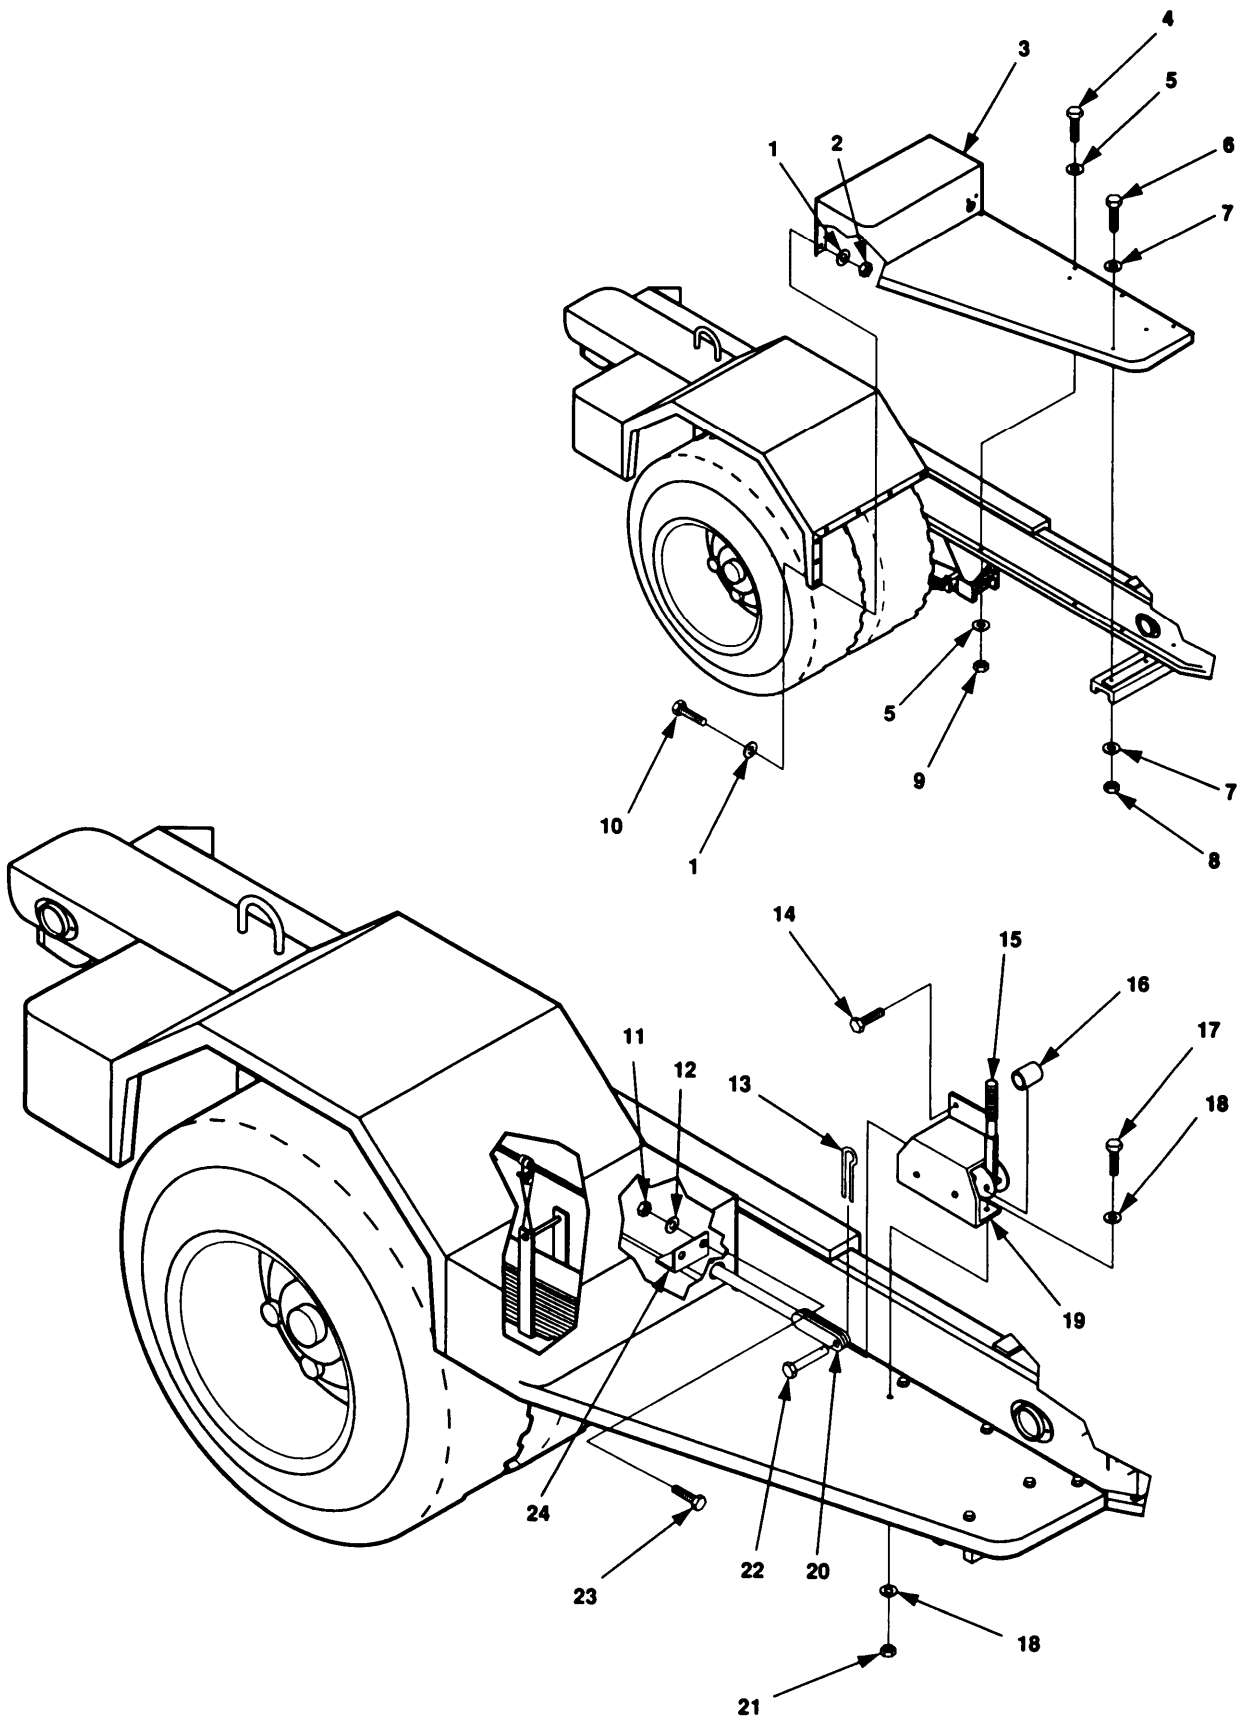

Figure 4-20. Front Stop Replacement.
3. Remove cotter pin (13, figure 4-20), spacer (16), and clevis pin (22) securing handbrake cable to handbrake lever mechanism (15).
4. Remove two screws (14) that secure handbrake bracket (19) to trailer frame.
5. Remove two self-locking nuts (21), flat washers (18), and screws (17) securing handbrake bracket (19) to front step (3). Discard self-locking nuts.
6. Remove handbrake bracket (19) and handbrake mechanism (15).
7. Remove two self-locking nuts (11), flat washers (12), and screws (23) that secure brake cable bracket (24) to front step (3). Remove cable (20). Discard self-locking nuts.
8. Remove seven self-locking nuts (2), flat washers (1), and screws (10), securing front step (3) to front edge offender. Discard self-locking nuts.
9. Remove three self-locking nuts (9), flat washers (5), and screws (4), securing the front step (3) to trailer frame. Discard self-locking nuts.
10. Remove five self-locking nuts (8), flat washers (7), and screws (6) securing front step (3) to chassis. Discard self-locking nuts.
11. Remove front step (3).